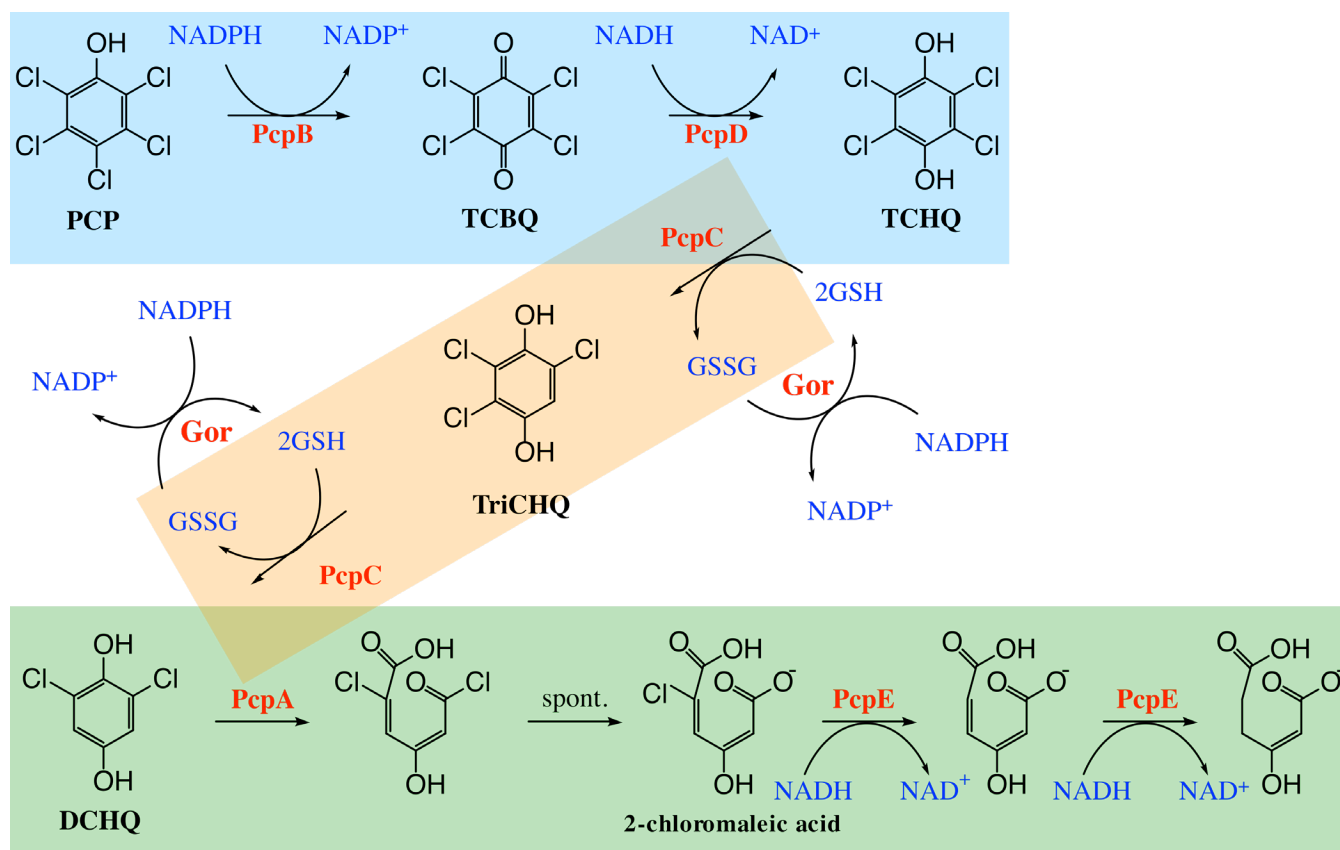

Figure 1v. PCP degradation pathway.
Bioremediation is defined as the use of microorganisms to remove pollutants, such as pentachlorophenol (PCP), from the environment. The *National Geographic* article “Mediocre Poison Eaters and the Imperfection of Evolution” (Zimmer, 2013) describes the inefficiency of PCP degradation (Figure 1v), and it is clear that this metabolic pathway has not been optimized in nature to degrade PCP. Our goal as scientists is to create a strain of *Sphingobium chlorophenolicum* that can more efficiently break down PCP for use in bioremediation applications.
2. Go back to the pathway diagram (Figure 1v) and highlight metabolites that are limited in PCP conditions. What quantities of these metabolites are consumed during the degradation of one molecule of PCP?